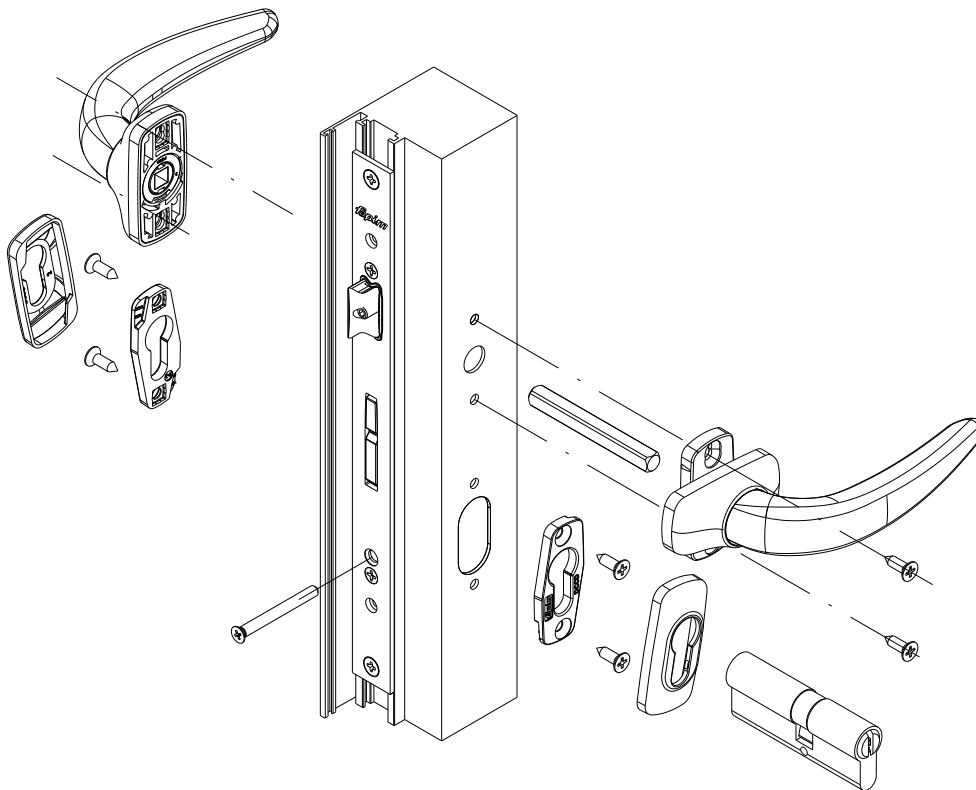

Figure 27
- G. Mount the baseplate for the lock cylinder cover(s) to the door leaf with the provided fasteners (Depending on the ordered lock configuration there may be a cover on either the exterior, interior, or both). See Figure 27 for orientation.